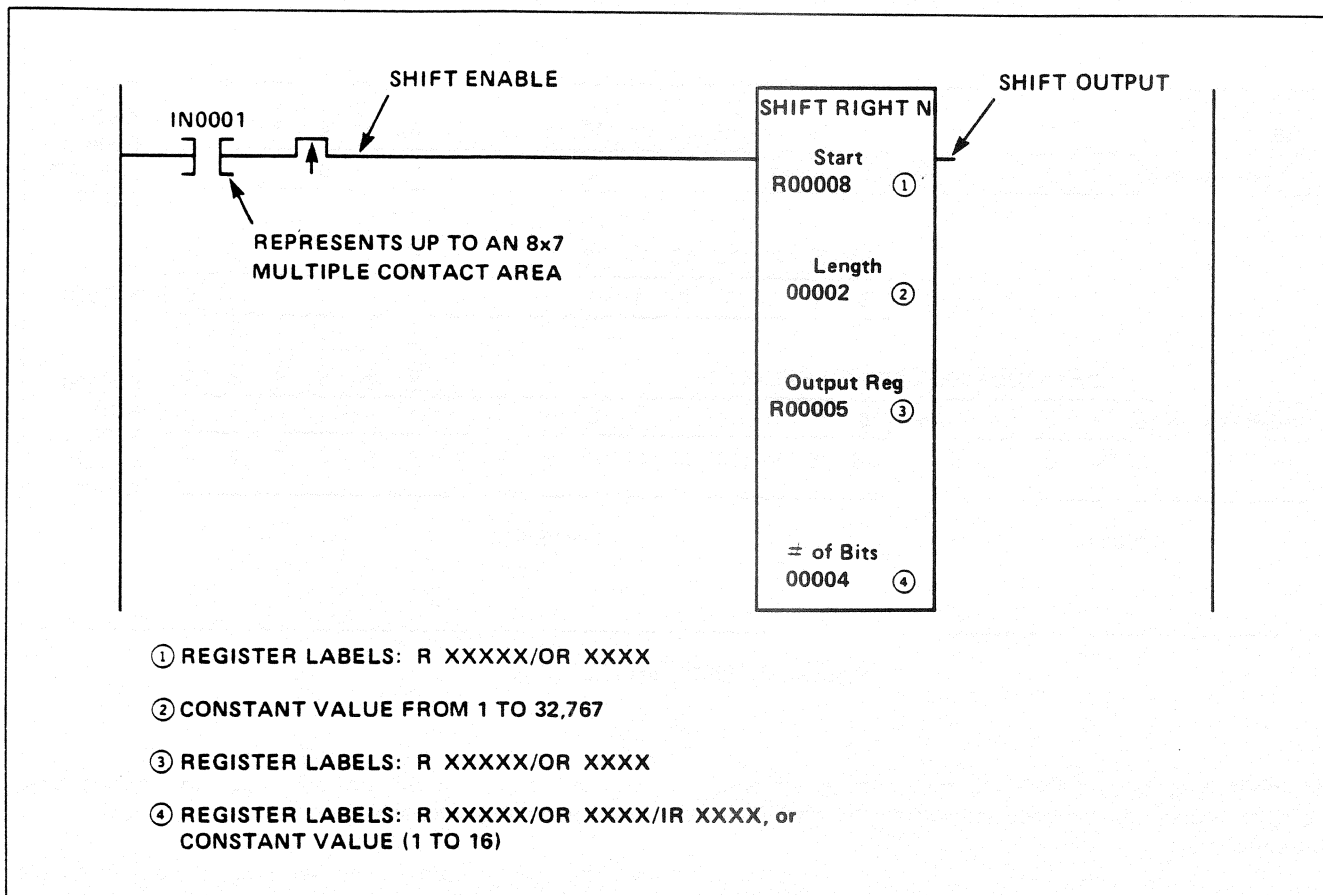

Figure S-3. Shift Right N Circuit (Typical)
See the typical circuit in Figure S-3 and note the following 4 points:
1. The example shown uses the following values from Figure S-3: 4 bits shifted; a 2-register shift register starting at R00008; and an Output Register R00005.